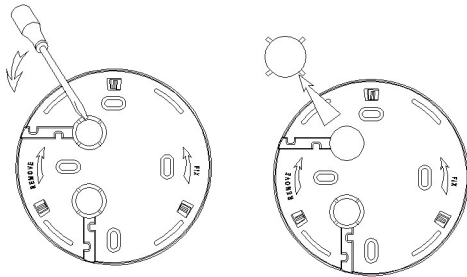

**Fig. 2.**
1. To separate the backplane from the detector, rotate the backplane clockwise according to the direction of the arrow (See Fig. 2 and 3).